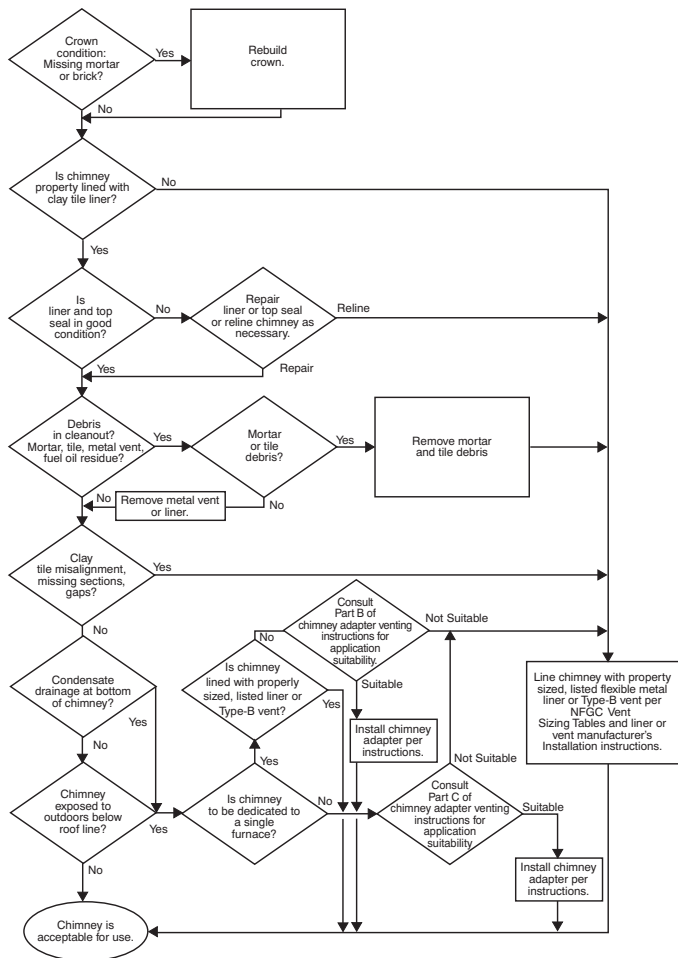

Fig. 30 – Chimney Inspection Chart
6. Do not vent this appliance into an unlined masonry chimney. (Refer to Chimney Inspection Chart, Fig. 30).
*The 99.6% heating db temperatures found in the 1997 or 2001 ASHRAE Fundamentals Handbook, Climatic Design Information chapter, Table 1A (United States) or the 2005 ASHRAE Fundamentals handbook, Climatic Design Information chapter, and the CD-ROM included with the 2005 ASHRAE Fundamentals Handbook. Inspections before the sale and at the time of installation will determine the acceptability of the chimney or the need for repair and/or (re)lining. Refer to the Fig. 30 to perform a chimney inspection. If the inspection of a previously used tile-lined chimney: